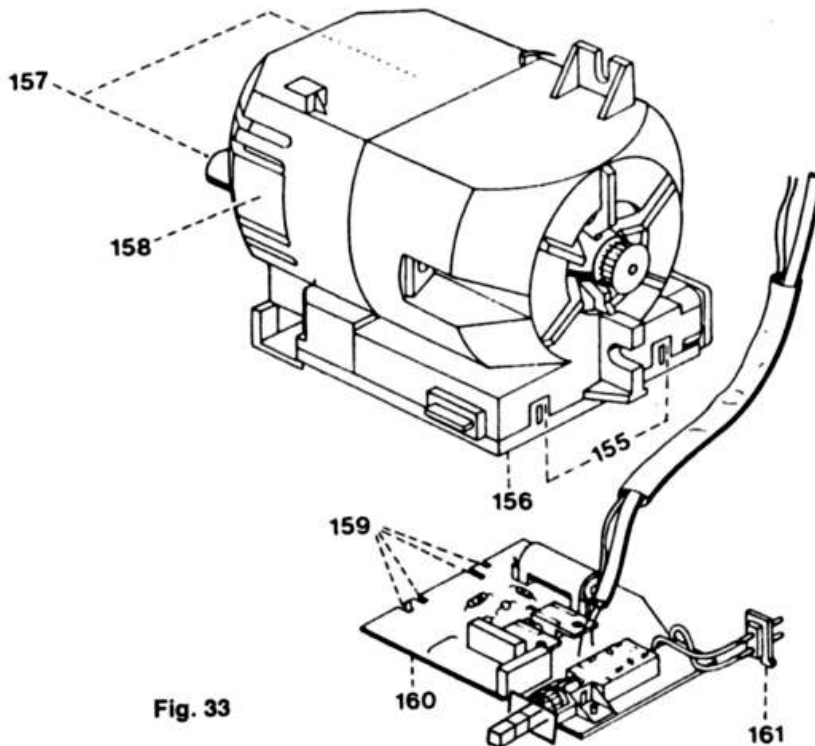

Fig. 33
- Raise the two locking tabs 155 just a little and remove cover 156 (fig. 33).